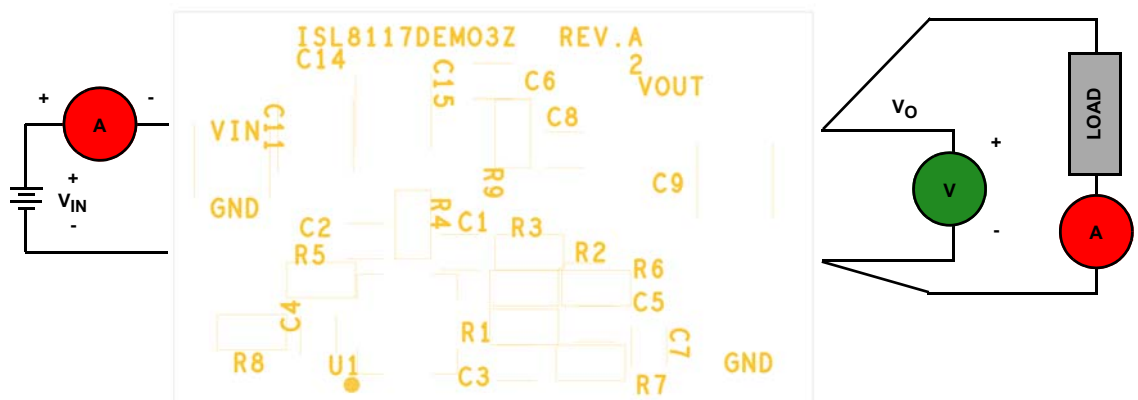

FIGURE 3. PROPER TEST SETUP
1. Ensure that the circuit is correctly connected to the supply and electronic loads prior to applying any power. Please refer to Figure 3, on page 3 for proper setup.
As shown in Figure 3 on page 3, 4.5V to 60V  $V_{IN}$  is supplied to J1 (+) and J2 (-). The regulated 3.3V output on J3 (+) and J5 (-) can supply up to 6A to the load.